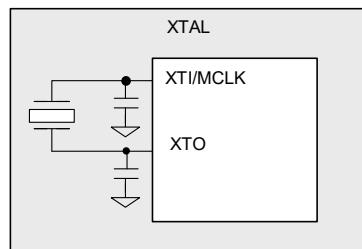

Figure 4-9. System Clocking—Crystal Mode
- Sourced from a crystal oscillator between XTI/MCLK and XTO pins (see Fig. 4-9), then used directly as MCLK_INT